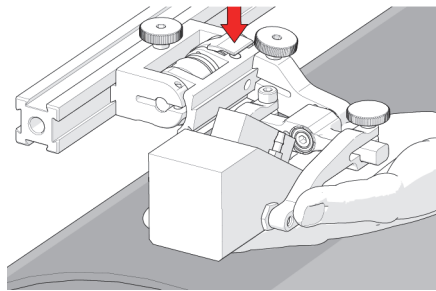

Figure 2-32 Lift and press latch
3. Lift the probe slightly and press the latch button (see Figure 2-32 on page 59) to apply spring pressure to the wedge.